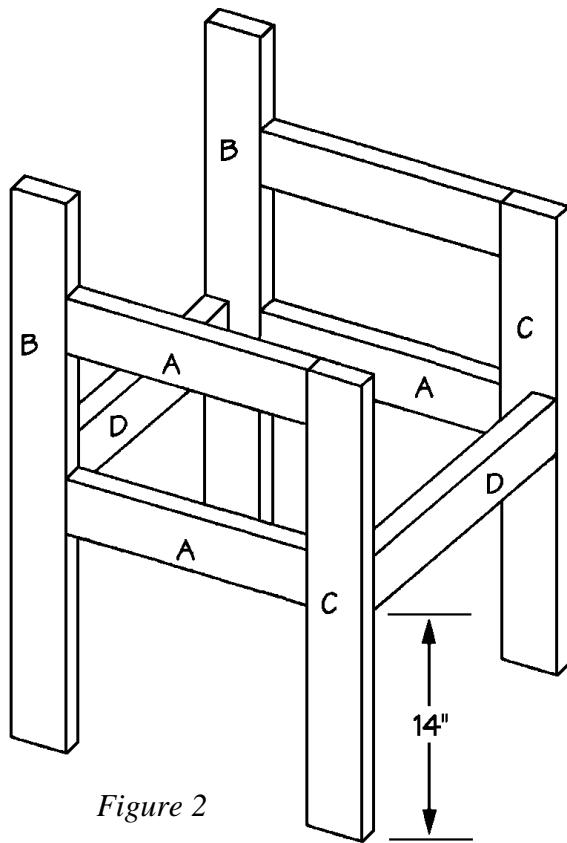

Figure 2
1. Cut two Outer Seat Supports (D) from 2 x 4 pine, each measuring 20 inches long.
2. For the next step you may want to ask for a willing helper to assist. If no one is available (or willing), use a bar clamp to hold the assembly while you screw it together. Place the side assemblies on one 35"edge, parallel to each other and 20 inches apart. Fit one Outer Seat Support (D) between the two side assemblies, 14 inches from the upper edge of the two side assemblies. The top edge of the Outer Seat Support (D) should be exactly even with the top edge of the lower Horizontal Side (B) as shown in *Figure 2*. Apply glue to the meeting surfaces, and screw through the side assemblies into the ends of the Outer